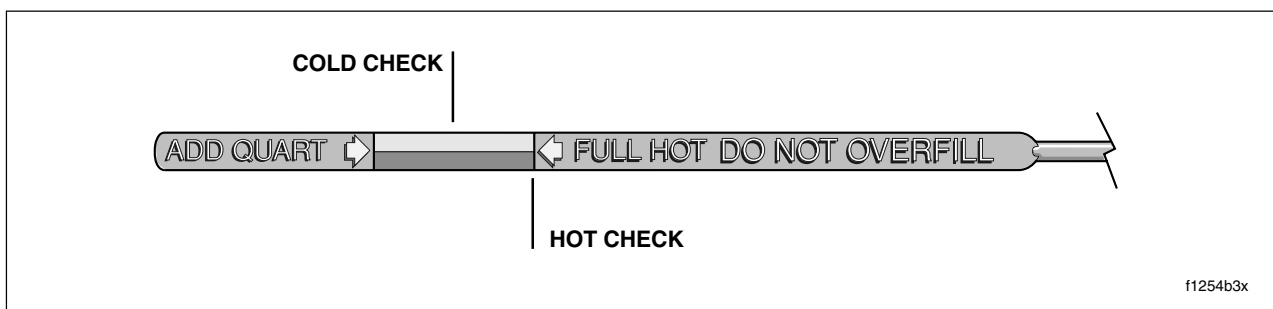

Figure 2-15. Engine Oil Dipstick
2. Remove the dipstick and note the level of the oil. Oil level should register on the dipstick. See Figure 2-15. If oil level is at or below the lower arrow, add only enough oil to bring the level to the add arrow on the dipstick.
3. Remove the dipstick and note the level of the oil. Add only enough oil to bring the level to the FULL mark on the dipstick. See Figure 2-15. Do not overfill.